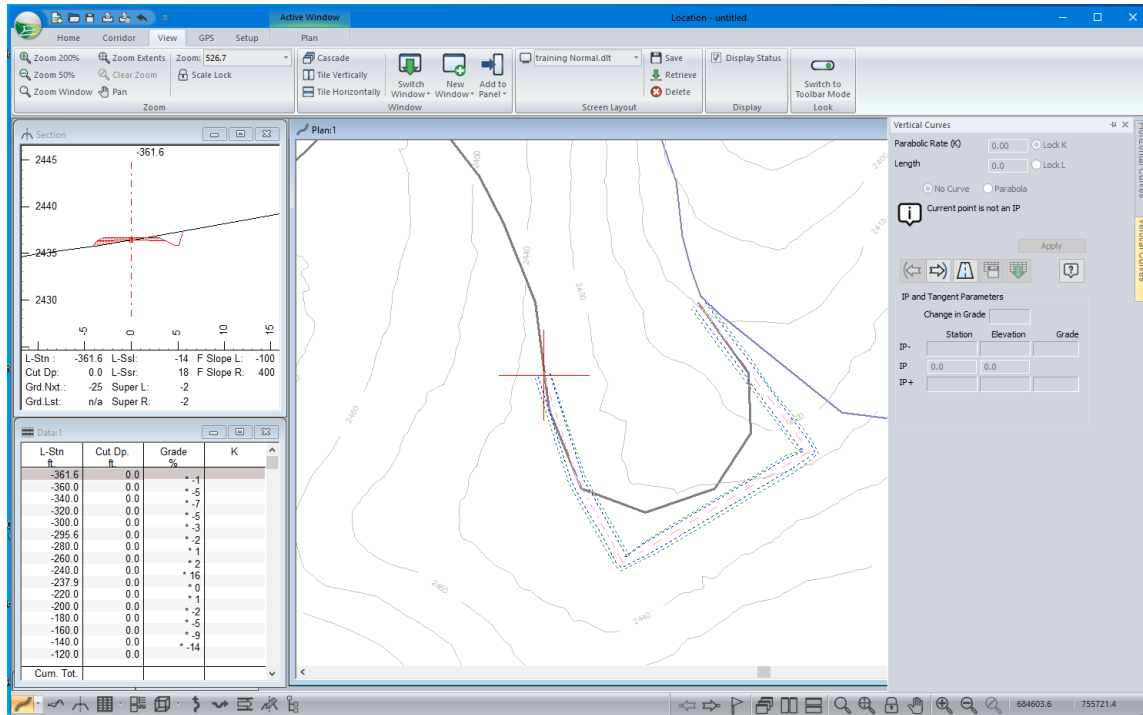

Figure 6-10 : Start of Horizontal Alignment
18. Continue adding 3 more IP's at the positions shown in Figure 6-10.
The alignment should look similar to Figure 6-10: